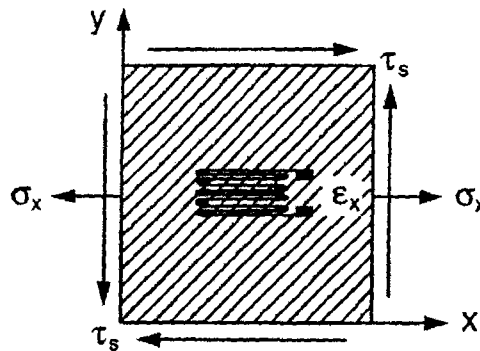

Figure 4(c)
- (c) An off-axis unidirectional CFRP lamina is loaded as shown in **Figure 4(c)**, and the strain ϵ_x in the x -direction is measured with a strain gage.